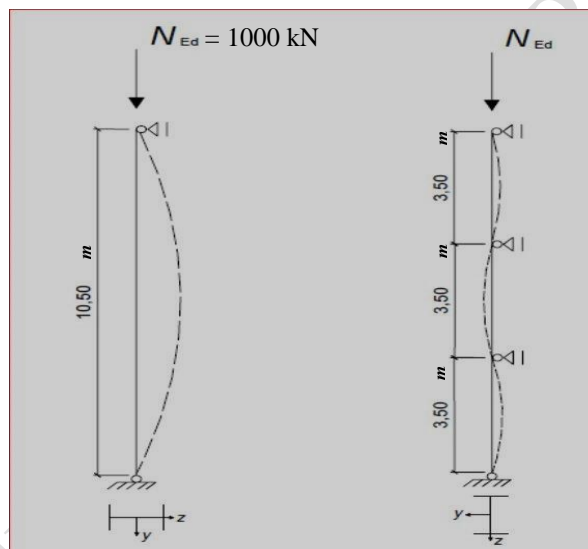

Figure Q2
- b) A column is laterally restrained every 3.5 m against buckling about the minor axis but has no intermediate restraints against buckling about the major axis as shown in Figure Q2. The column is considered to be pinned in both directions.